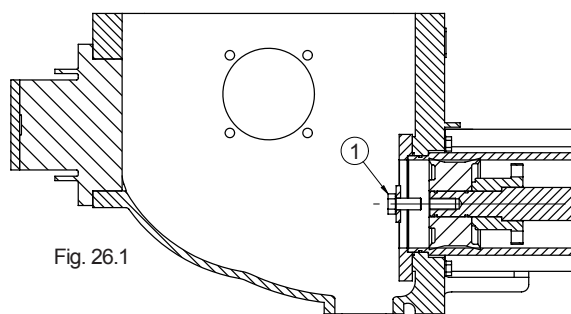
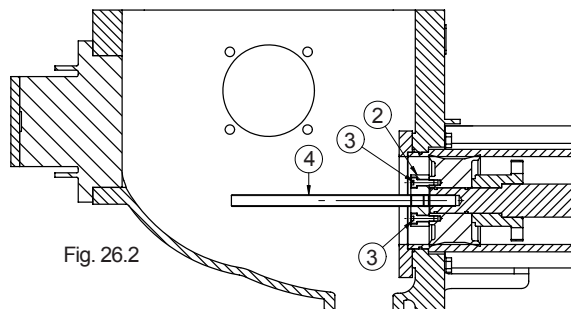
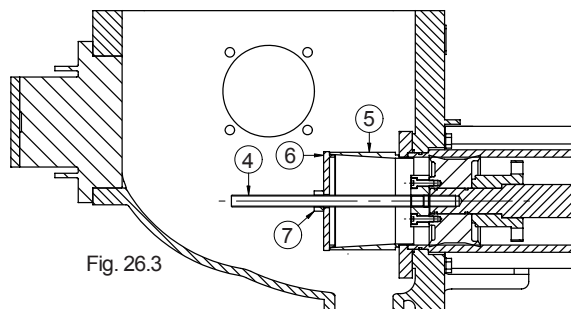

Fig. 26.1
Fig. 26.2
Fig. 26.3
- Undo the head bolt (Fig. 26.1 Ref. 1), mount the extractor (Fig. 26.2 Ref. 2) to the piston and screw in the two bolts (Fig. 26.2 Ref. 3).
- Screw the tie-rod (Fig. 26.2 Ref. 4) fully into the extractor, locate the centring bush (Fig. 26.3 Ref. 5) on the wear plate, fit the cap (Fig. 26.3 Ref. 6) and start screwing in the nut (Fig. 26.3 Ref. 7); screwing the nut in extracts the piston (Fig. 26.4 Ref. 8) from the cylinder.